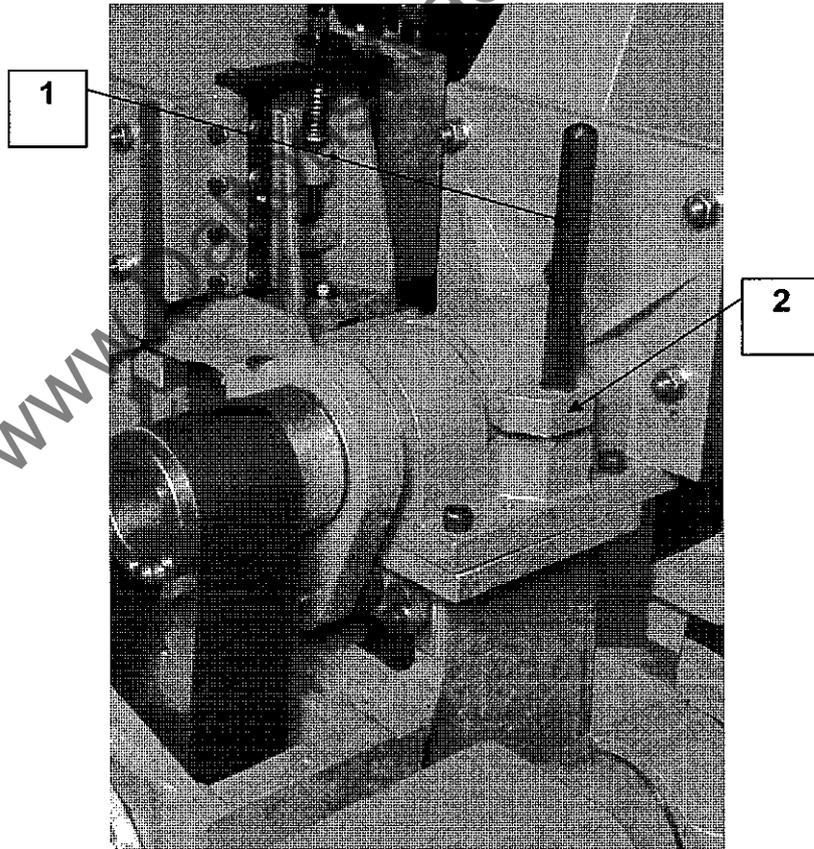

Figure 7.3.8
- 5 Slot the 'C' washer (2) over the draw bolt (1) and tighten the draw bolt.
7.3.8 Replace Bottom/Top Head Spindle (Figure 7.3.8)